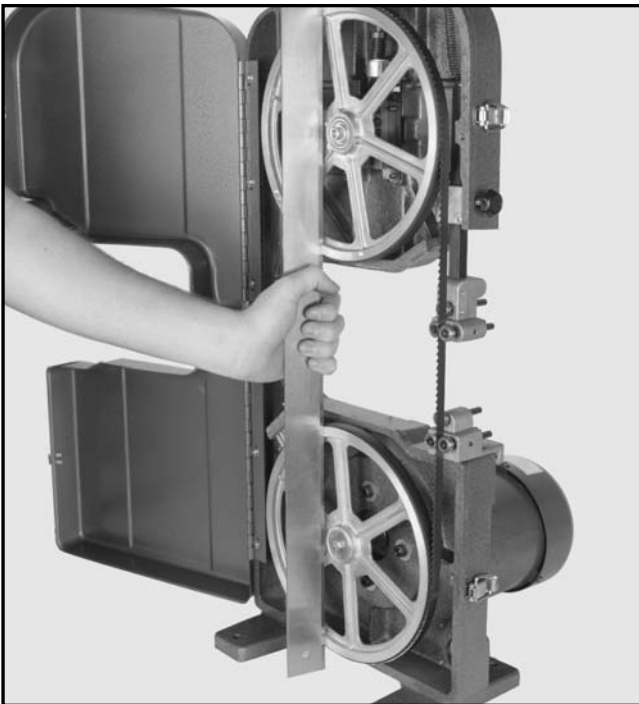

Figure 5. Checking blade co-planarity.
2. Set a straightedge against the sides of the wheels. It should fully extend across both of them. **Figure 5.**